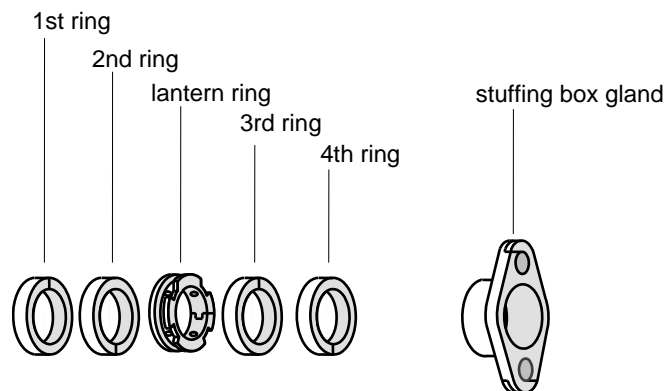

Fig. 4
- The second ring is placed against the first one so that the joints are at 180° angle to each other, Fig. 4.